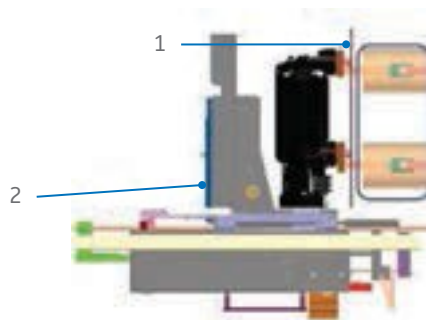

Figure 22: SecoVac R on “CONNECTED” Position
- Rotating the racking screw will automatically move the SecoVac R module into the “CONNECTED” position. Figure 22 shows SecoVac element travel with respect to the undercarriage; this figure is for explanation purpose only.
- Figure 22 shows the SecoVac R breaker module racked into the “CONNECTED” position, on top of the fixed undercarriage. Total travel of the SecoVac R module into the “CONNECTED” position is approximately 10 inches.